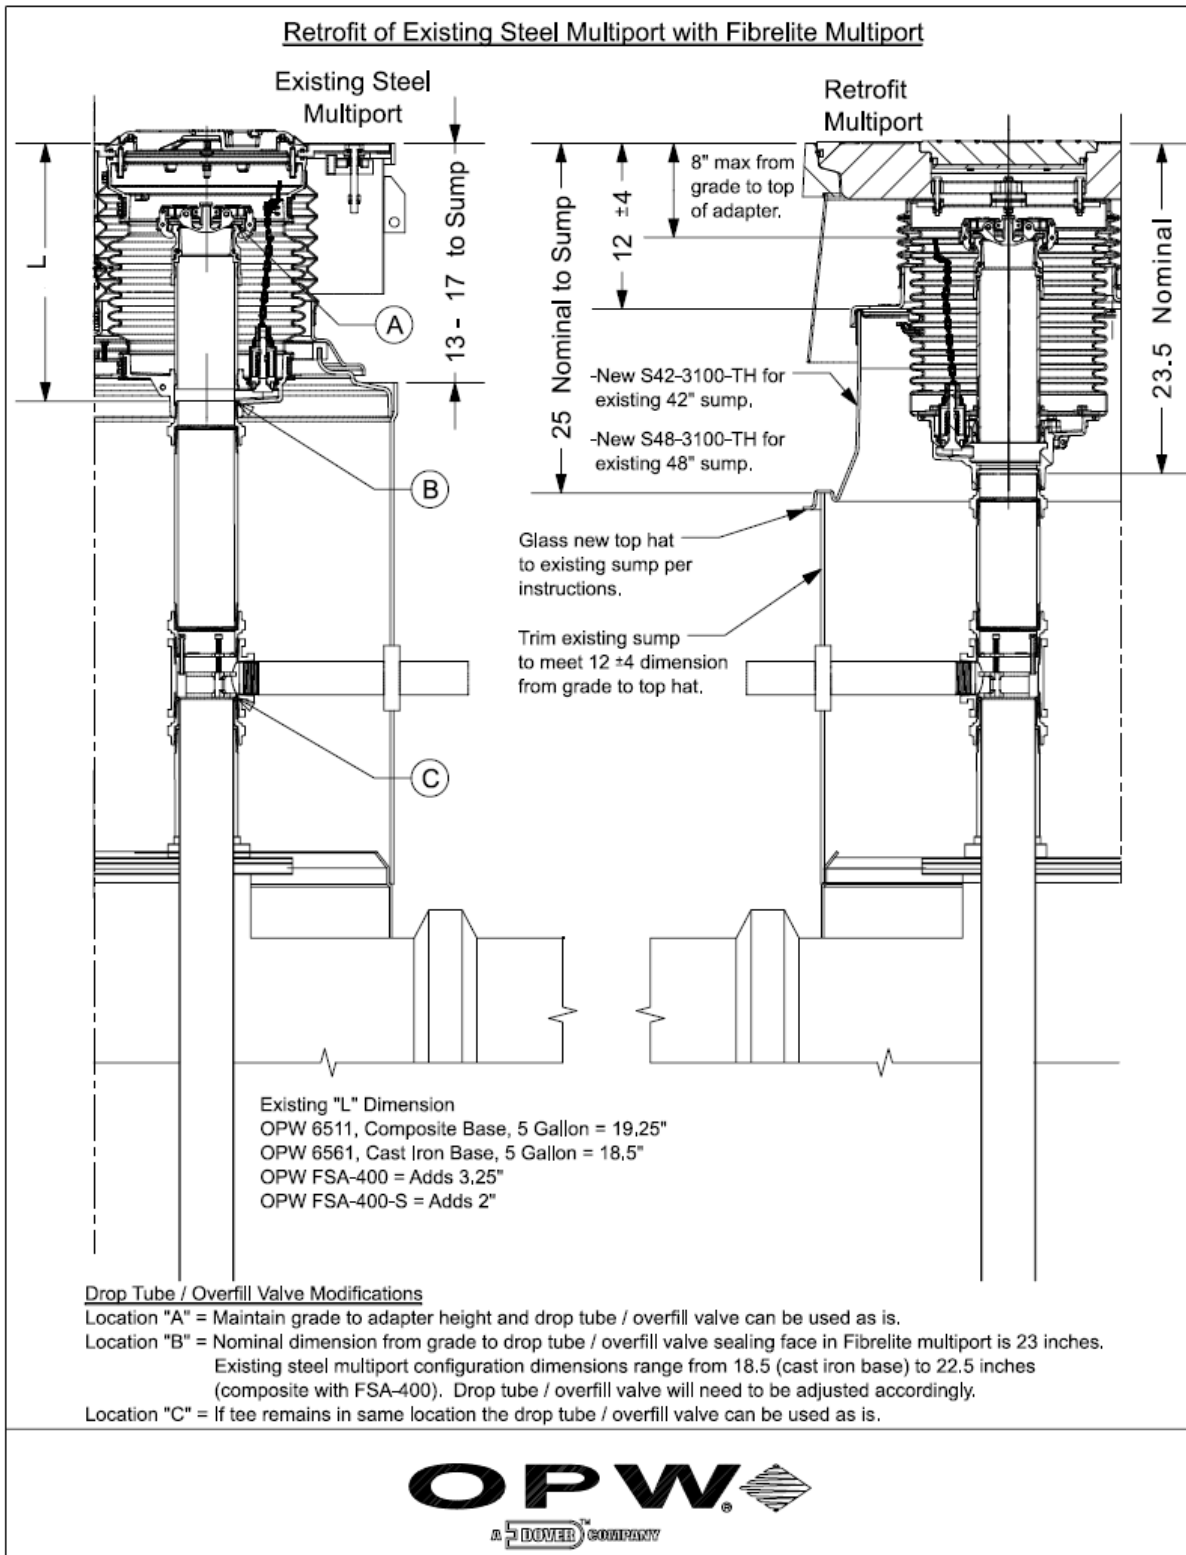

Figure 27
- 41. Ensure sump / top hat installed under cover can be adapted to meet the dimensions shown in Figure 27.
- 42. Ensure riser heights can be adjusted to meet dimensional requirements shown in Figure 27.
- 43. If desired, the existing drop tube / overfill valve can potentially be used with the new installation. Determine mounting location of current drop tube / overfill valve (See Figure 27 for 3 possible options).
- 46. Install top hat / riser with WS-RING-37 to meet the 12 inch dimension from grade to top hat shown in Figure 27. Follow instructions supplied with top hat or riser. Steps 23 thru 30 may apply.
**Note:** If drop tube / overflow valve were to be installed in Location C as shown in Figure 27 if the tee remains in same location the drop tube / overflow valve can be used as is.